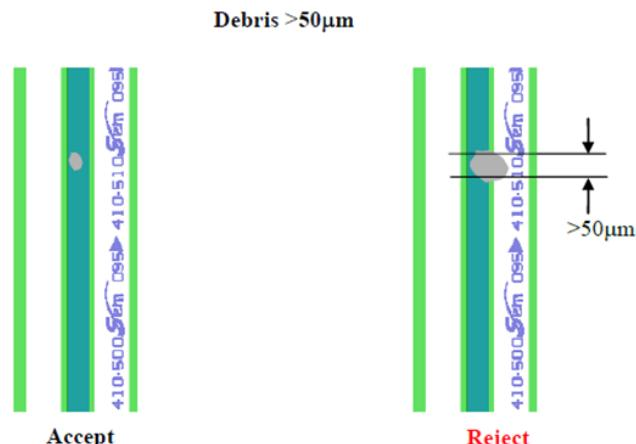

Fig. 2
- Contaminations or debris smaller than 50 μm on the N or P-side metallization or outside the waveguide area are considered within specs, as shown in Fig.2.